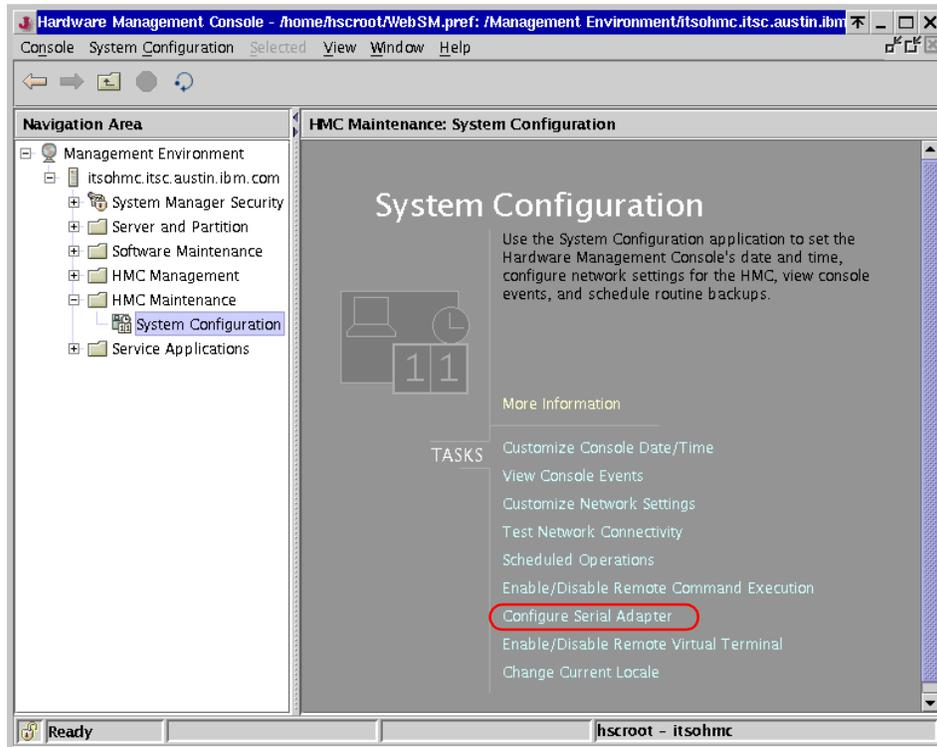

Figure A-2 Configure Serial Adapter
2. Select the Configure Serial Adapter task in the Content area as shown in Figure A-2 on page 298.